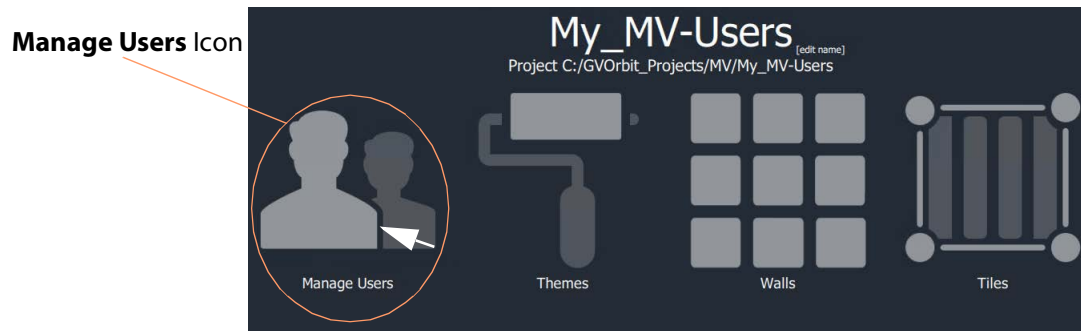

Fig. 4-2: Manage Users icon on Home Screen
The **Manage Users** tab is opened. See Figure 4-2 on page 143.
- 3 Click on the large **Manage Users** icon. See Figure 4-2.